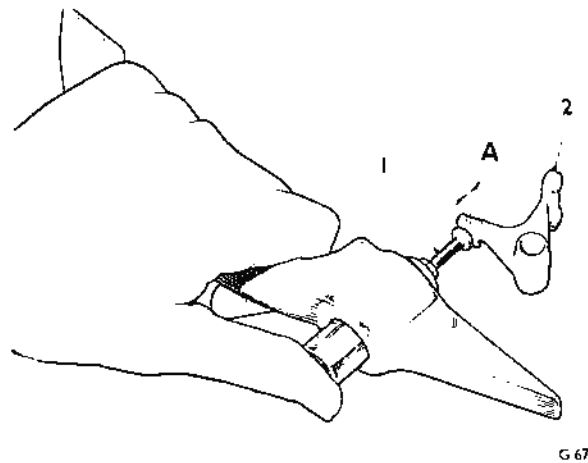

Fig. 1 Handle adjusting screw setting
2. Remove the handle and button assembly and turn the adjusting screw until a clearance of 1/32 in. (0.79 mm.) exists between the head of the adjusting screw and the contact lever, as shown in Figure 1.